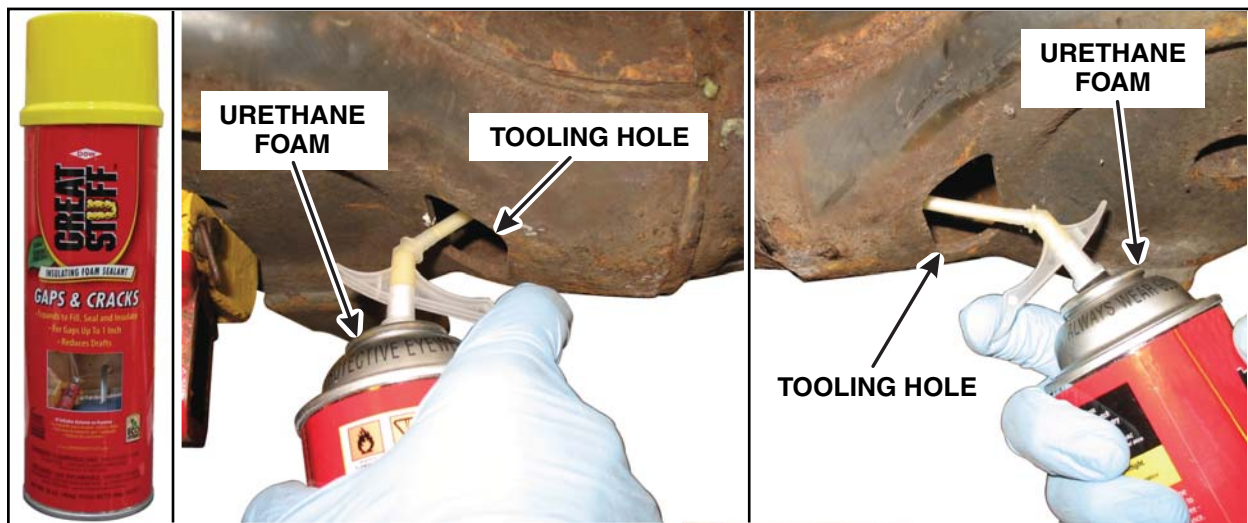

FIGURE 5
3. Obtain one (1) can of Great Stuff™ Gaps & Cracks. Follow the instructions on the can for application. Insert nozzle in tooling hole at bottom of spring seat as far as possible. Pull trigger and remove nozzle in circular pattern. Stop application about 25 mm (1 in) from tooling hole. See Figure 5.